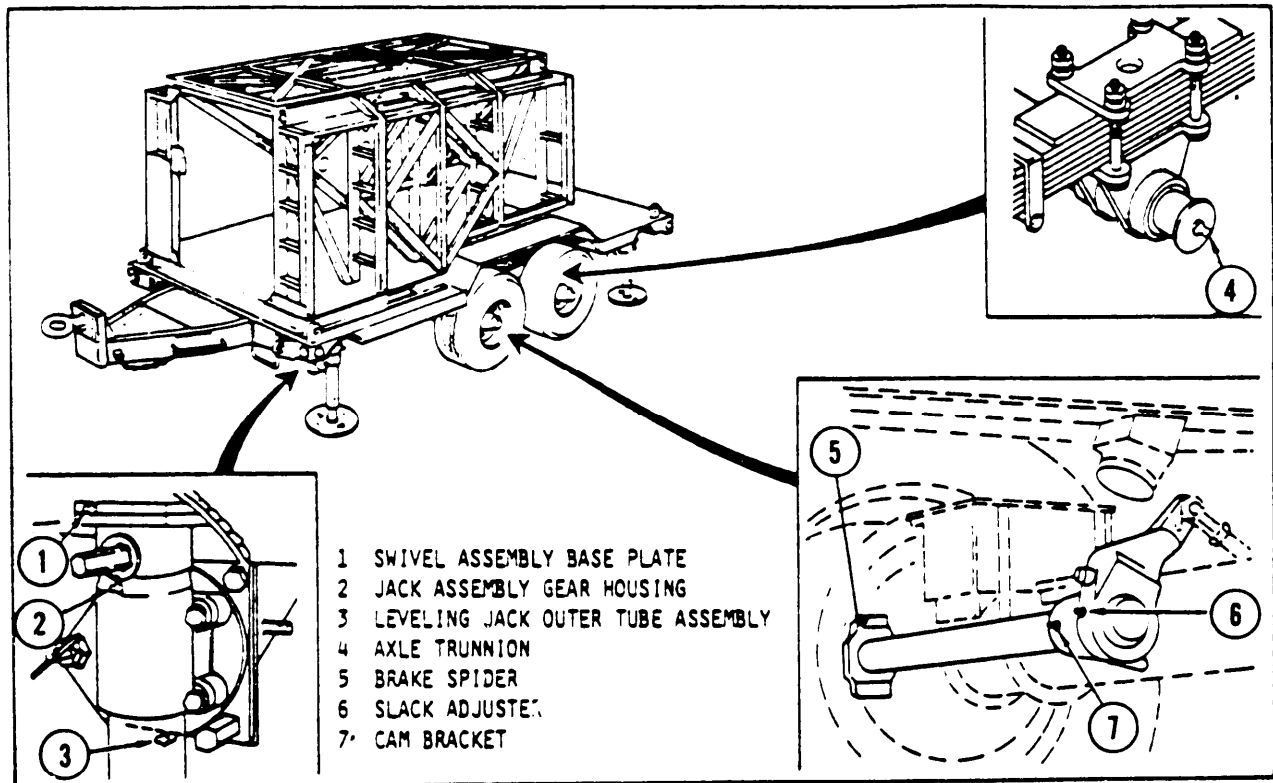

Figure 2-18. Trailer Lubrication Fittings (ARMY)
- a. Removal. Removal of lubrication fittings consists only of screwing the fitting out of the component in which it is installed. Refer to figure 2-18 for location of lubrication fittings.